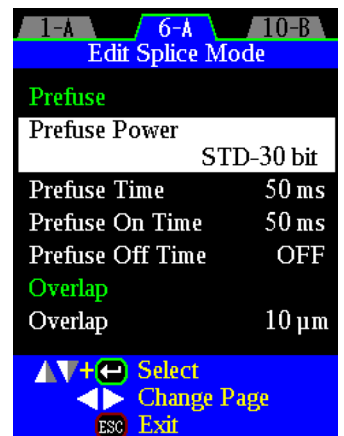

Figure 12 — Error Limit Threshold
9. Proceed to the error settings in pages 10A-10B (**Figure 12**).